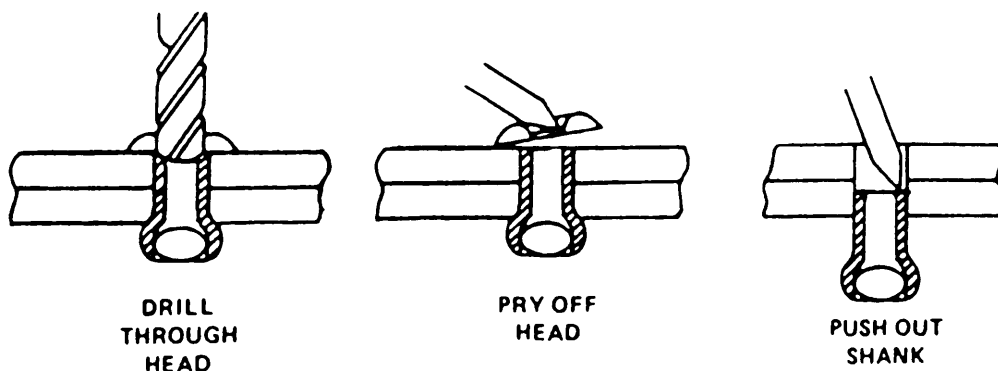

Figure 3-5. Removing Blind Rivets.
(2) Removal. (Figure 3-5)**WARNING**